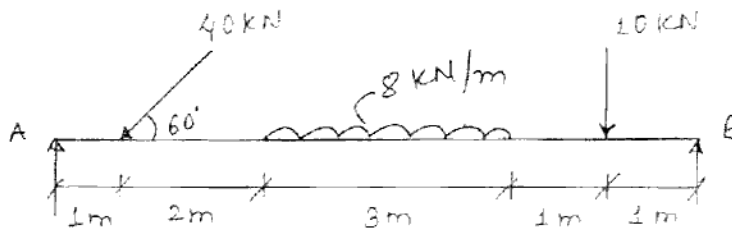

FIG. 5
7. Draw shear force diagram and bending moment diagram for the beam shown in FIG. 5.